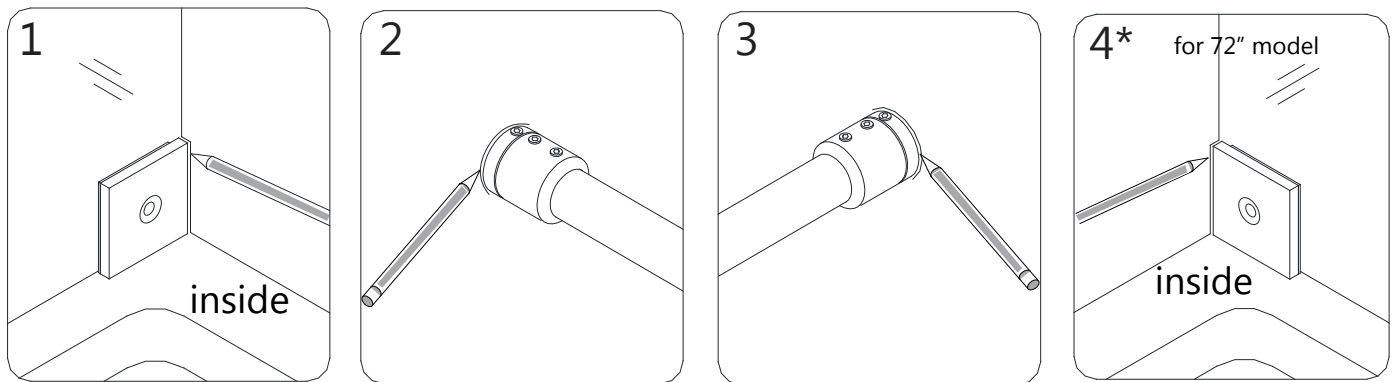

Fig 9
***NOTE:** If installing the 72" model, also mark the position of the **Wall Bracket (#19)** on the opposite wall for the **Small Stationary Panel Glass (#23)** (see Fig 9.4*). (**Fig 9**)